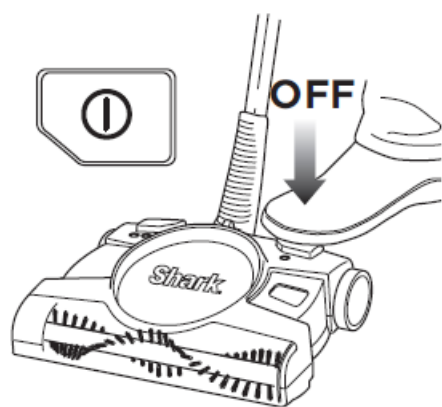

Fig. 2
1. Always make sure that the unit is turned off. (Fig. 2)